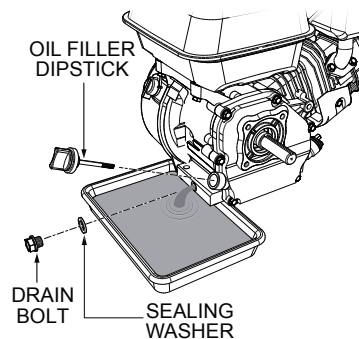

Figure 38. Draining Engine Oil
1. Unscrew the oil filler dipstick (Figure 38) from its holder.
2. Remove the oil drain bolt and sealing washer and allow the oil to drain into a suitable container (Figure 38).